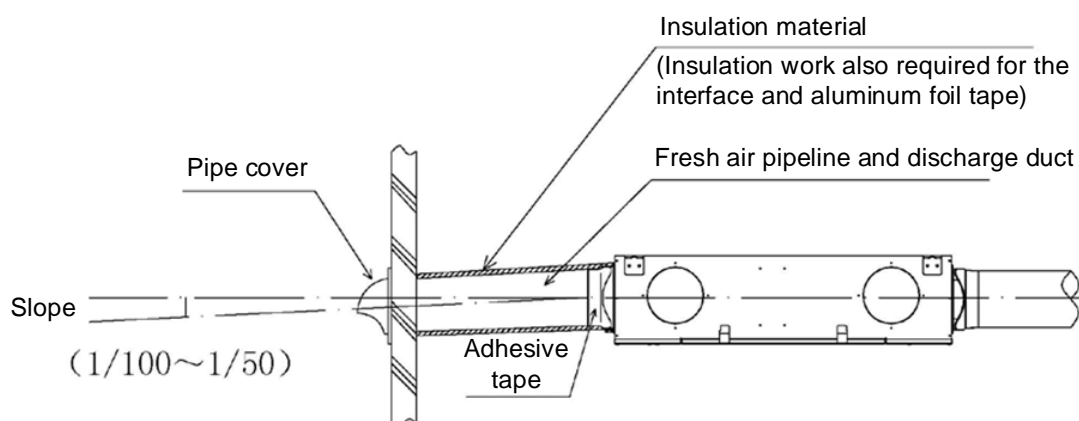

Figure 6 Ceiling installation
- Install the outside duct at a fixed angle of inclination to prevent rainwater from flowing back. To prevent condensation, cover heat insulating material for outside ventilation ducts (e.g., rubber and plastic insulation boards). If the humidity is too high in the ceiling, make sure that the inside ventilation ducts are insulated too. See Figure 6.